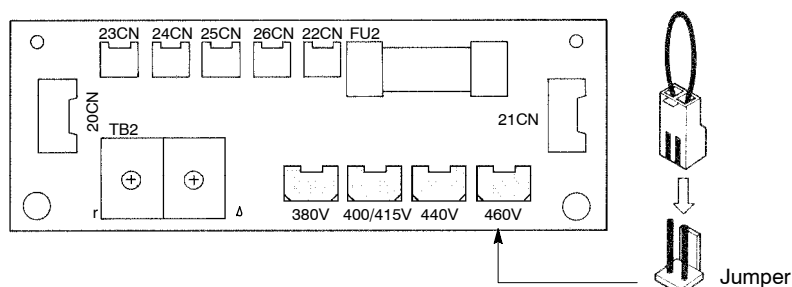

Fig.14 Setting the Power Supply Voltage (For 400 V Class Power Regenerative Unit between 37 kW and 75 kW)
- ① Turn OFF the power supply switch and wait for at least five minutes before removing the front panel and setting the jumper.
- ② Remove the front cover.
- ③ Insert the jumper at the position for the voltage supplied to the power regenerative unit (see Fig.14).
- ④ Replace the front cover.